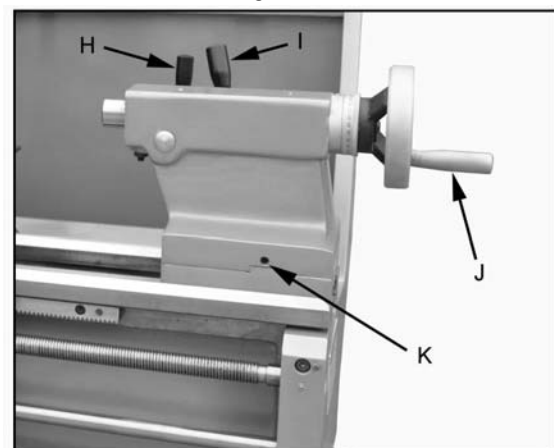

Figure 15
21. **Tailstock Quill Clamping Lever** (H, Fig. 15) – Lift up to lock the spindle. Push down to unlock.
22. **Tailstock Clamping Lever** (I, Fig. 15) – Lift up lever to lock. Push down lever to unlock.
23. **Tailstock Quill Traverse Handwheel** (J, Fig. 15) – Rotate clockwise to advance the quill. Rotate counter-clockwise to retract the quill.
24. **Tailstock Off-Set Adjustment** (K, Fig. 15) – Three set screws located on the tailstock base are used to off-set the tailstock for cutting tapers. Loosen lock screw on tailstock end. Loosen one side set screw (K, Fig. 15) while tightening the other until the amount of off-set is indicated on scale. Tighten lock screw.